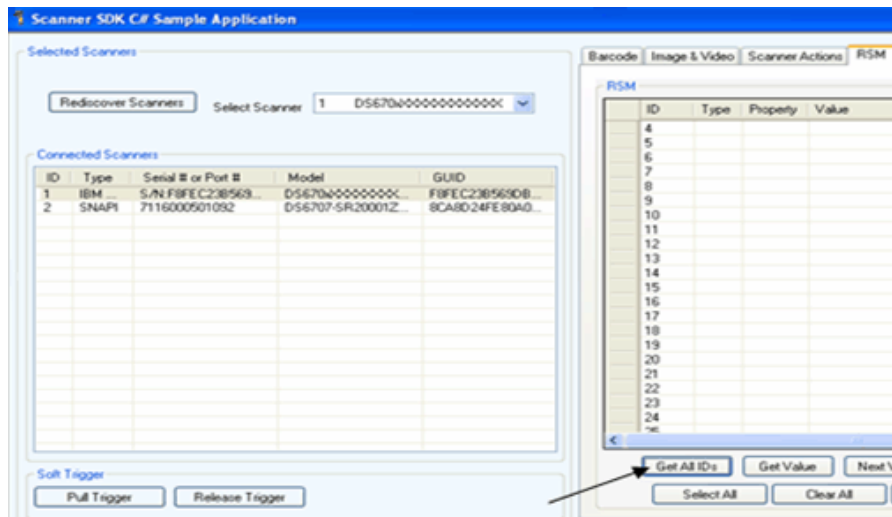

Figure 4-10 Get RSM IDs
- The sample application receives the XML output below and displays the corresponding attribute IDs on the grid (see *Figure 4-10 on page 4-17*).